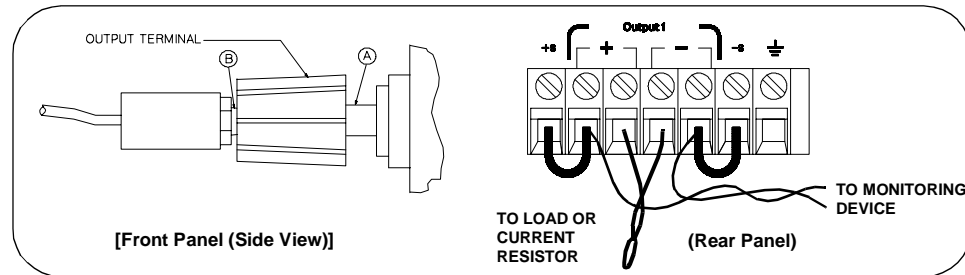

Figure A-2 Front/Rear Panel Terminal Connections
When measuring V_{rms} ripple and noise, the monitoring device should be plugged into the front of the terminals at (A) in Figure A-2. Use the BNC (Female) receptacle and the cable (BNC to BNC) to connect the monitor device to the power supply. To reduce the measurement error caused by common mode noise, it is recommended to twist the connection wire between the BNC receptacle and the output terminals. The load resistor is connected to the terminal at (B) in Figure A-2. Twisted leads between the load resistor and the power supply helps reduce noise pickup for these measurements.